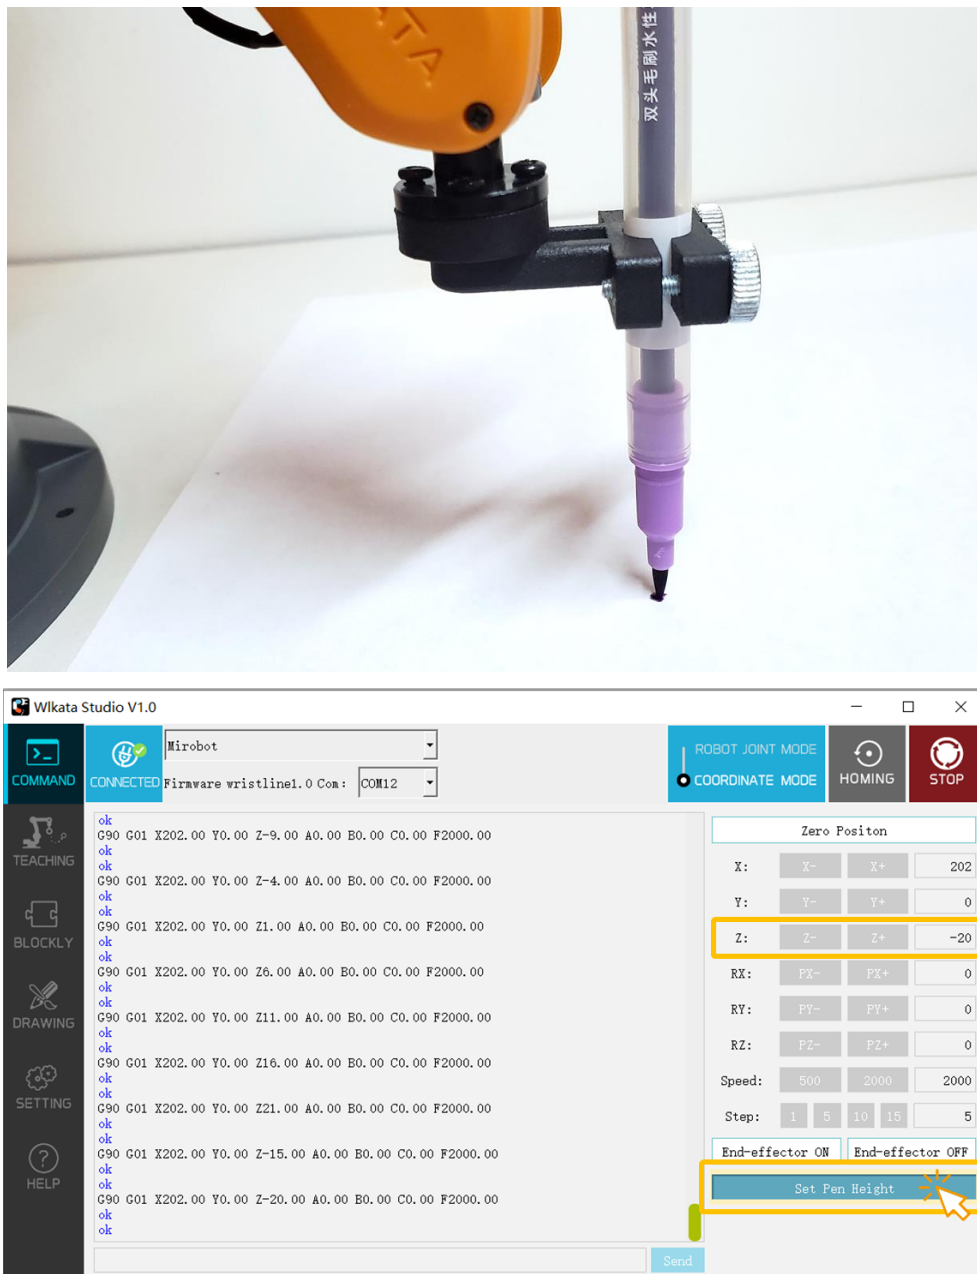

Figure 3.36 Setting the pen height before drawing
(2) We need to **set the height of the pen first** before drawing. Please follow the below instruction:
- After the manipulator back to the homing position, click the **Z-** button to adjust the height of the pen tip until it just touches the paper, as shown in Figure 3.36.
- When the pen tip is just touches the paper, click **Set Pen Height** button to set this pen height for the DRAWING function, as shown in Figure 3.36.